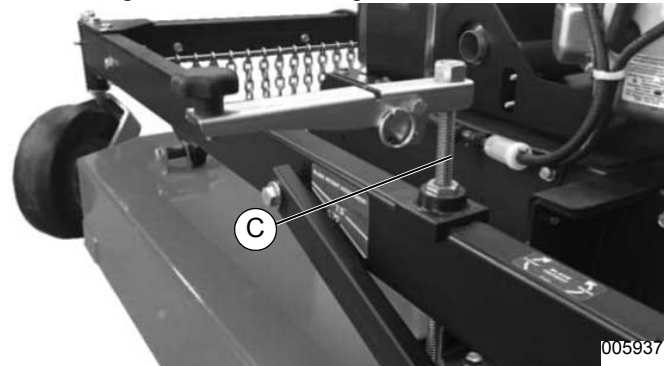

Figure 4-7. Height Adjuster Threads
2. See Figure 4-7. Clean height adjuster threads (C) using a wire brush or rag.